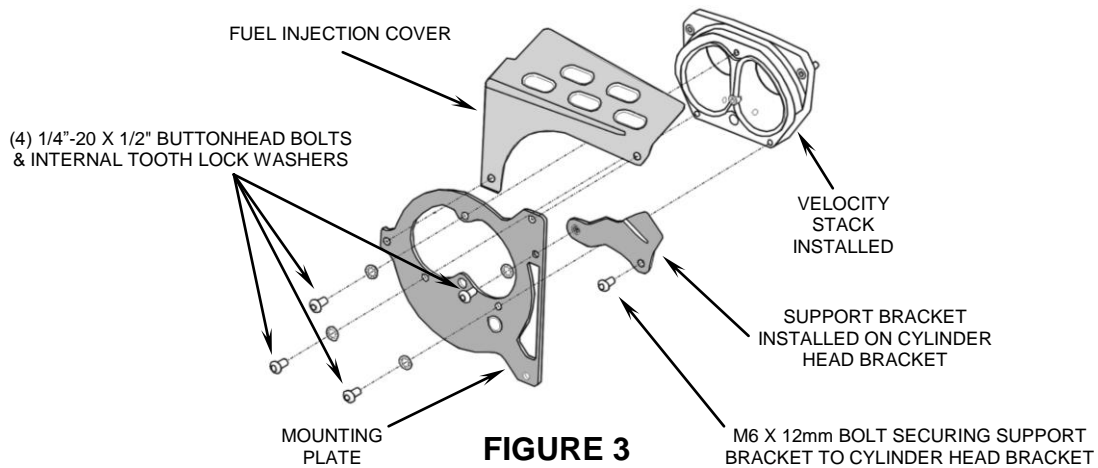

FIGURE 3
5. Position the mounting plate over the velocity stack (with the welded tube toward inside) and secure using (3) supplied 1/4"-20 x 1/2" buttonhead bolts and (3) internal tooth lock washers, finger tighten only. See Figure 3.
6. Install the supplied support bracket on to the stock bracket protruding from the top of the front cylinder head, secure finger tight with the supplied M6 x 12mm buttonhead bolt. Align the support bracket hole with the corresponding hole in the backing plate and secure with (1) 1/4"-20 x 1/2" buttonhead bolt and internal tooth lock washer. See Figure 3.
9. Position the fuel injection cover behind the mounting plate as shown in Figure 3.